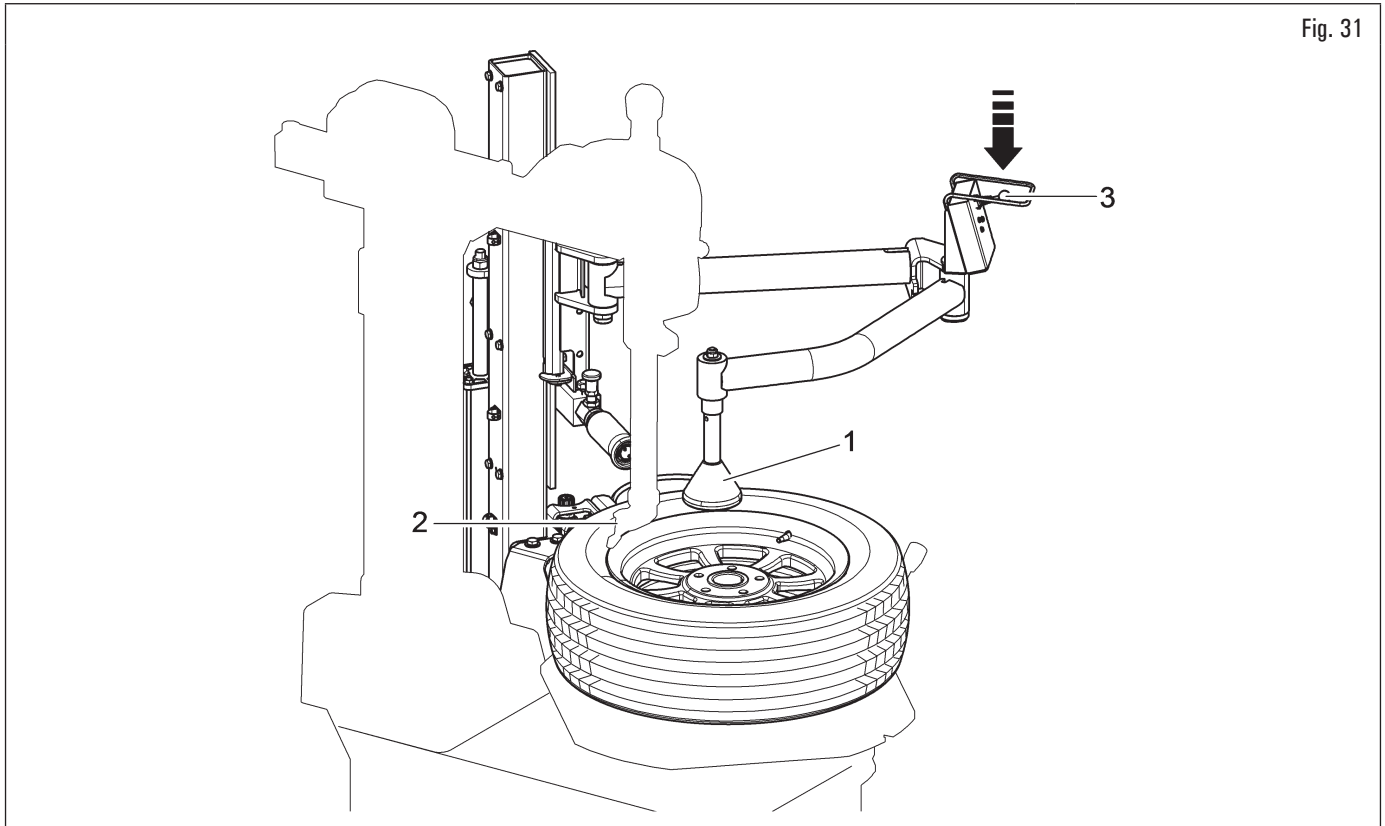

Fig. 31
1. Place the bead press tool (Fig. 31 ref. 1), as shown in figure (not far from the toolhead (Fig. 31 ref. 2). Lower the tyre using the bead press tool (Fig. 31 ref. 1) (lowering the lever of the control unit (Fig. 31 ref. 3)), to allow an easy positioning of the toolhead (Fig. 31 ref. 2). Then block the toolhead;
2. insert the bead lever (Fig. 31 ref. 1) between the tyre (Fig. 31 ref. 2) and the toolhead (Fig. 31 ref. 3);
3. lift the bead press tool (Fig. 31 ref. 4) by lifting the lever (Fig. 31 ref. 5);